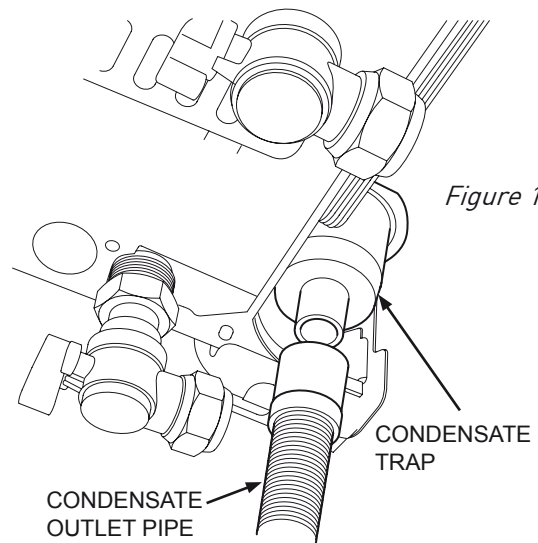

Figure 10.7
10.16 Extract the bottom part of condensate trap, by turning anti-clockwise and fill it with approximately 50 cc water re-connecting it to the boiler. (Figure 10.7).
10.17 Connect the condensate drainage pipe to the drainage system (Figure 10.7). Note due to the acidic nature of the condensate the drainage system must be made of non-corrosive material such as plastic tubing. More detailed information on condensate discharge is provided in BS 6798 (Specification for installation of gas fired hot water boilers of rated input not exceeding 70kW)